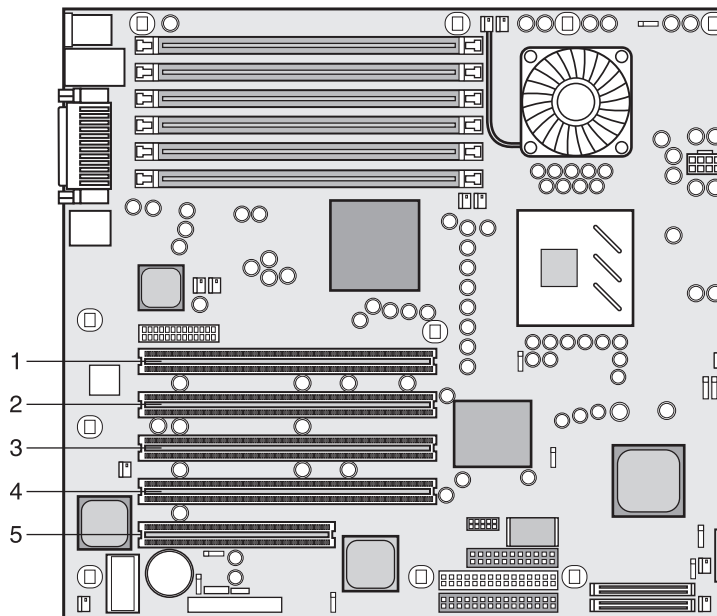

Figure 2-21: Accessory slots
7. Identify the accessory slot number to be used. Refer to Figure 2-21. (An ZCR RAID card must be inserted in PCI slot 2 (green color).)